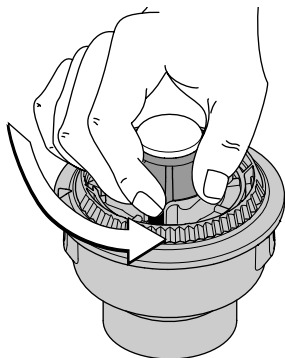

Fig. 26
1. Hold the outer spool, and unscrew the bump knob counterclockwise (Fig. 26).